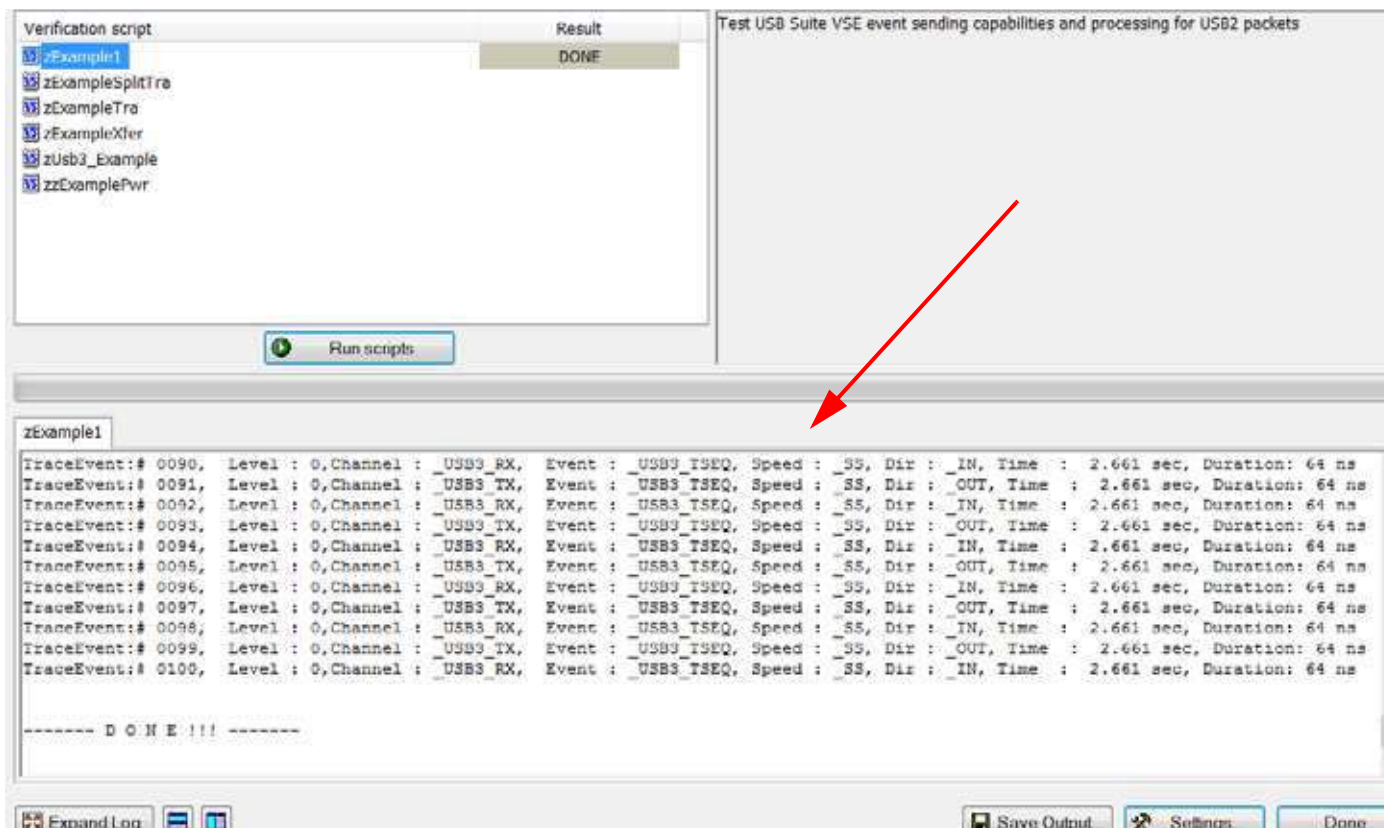

Figure 10.89: Verification Script Results
2. Press the button **Run scripts** after you select scripts to run. VSE starts running the selected verification scripts, shows script report information in the output windows, and presents the results of verifications in the script list (see Figure 10.89 on page 636).